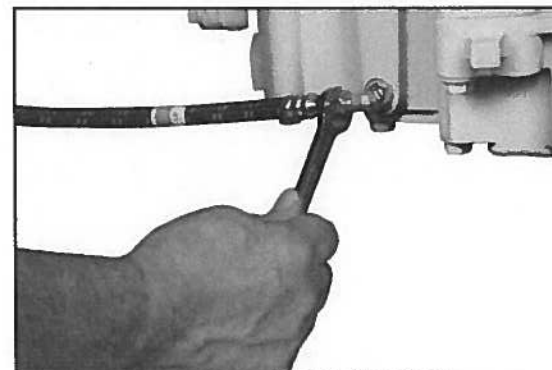

Fig. 18
10. Wet Spline Option - Connect the pressure hose between the tee fitting on the output bearing cap and high pressure port on the transmission. Non-Wet Spline Option - Attach hose between PTO valve fitting and High Pressure Port on the transmission (**Fig. 18**).